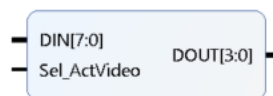

Figure 7: Bit-extraction component sensitive to active video control signal
- 14) Modify the bit extraction function as depicted figure 7. The output should be equal to the 4-MSB input when Sel_ActVideo equals one otherwise the output equal zero. The active video signal trigs the Sel_ActVideo. Explain the interest and the potential impact. The IP should be described in VHDL. After the IP validation, include this component into the video chain. Do to so, right click on the vhd file, and select the "Add Module to Block Design".